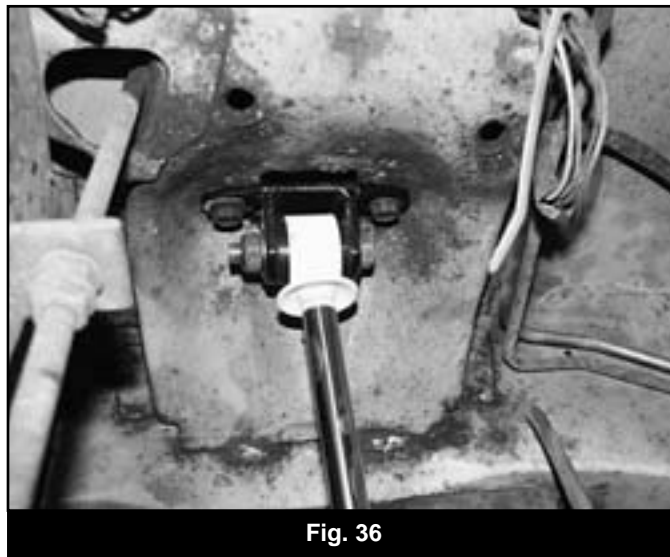

Fig. 36
19. Install the provided upper shock bar pin eliminator brackets (01350) with the original upper shock mounting hardware (Fig 36). Torque to 20 ft-lbs